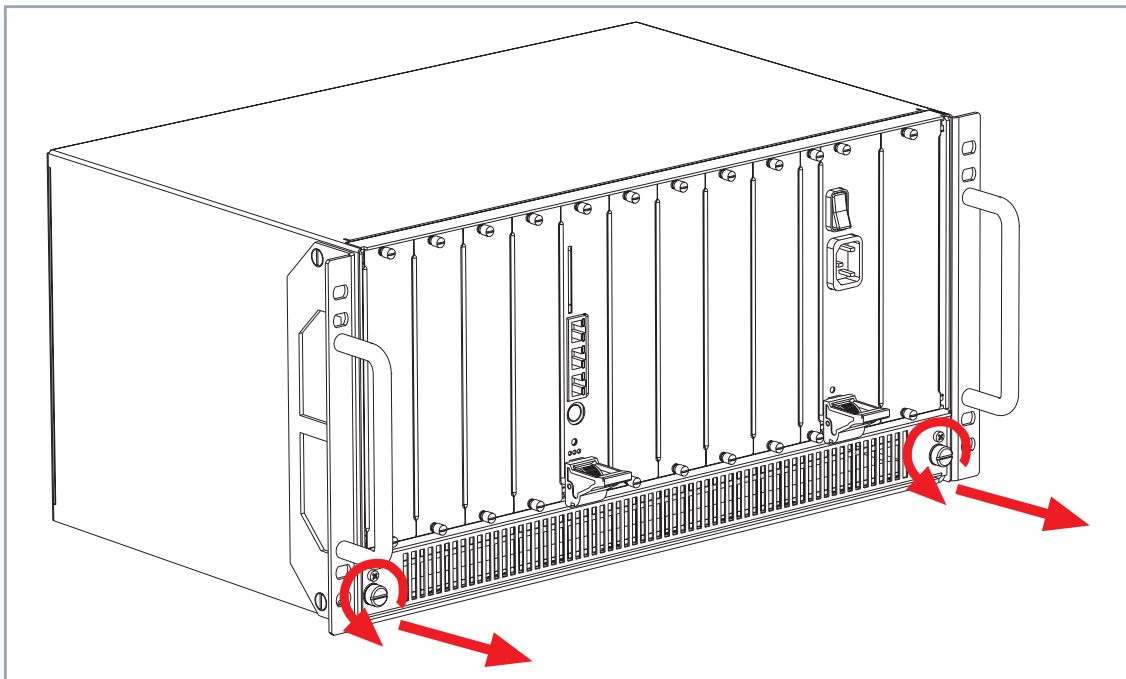

Figure 4-10: Loosening the screws and removing the fan cassette
- Loosen the two screws of the fan cassette by turning the screws to the left until they pop out of their position, see figure 4-10, page 49.